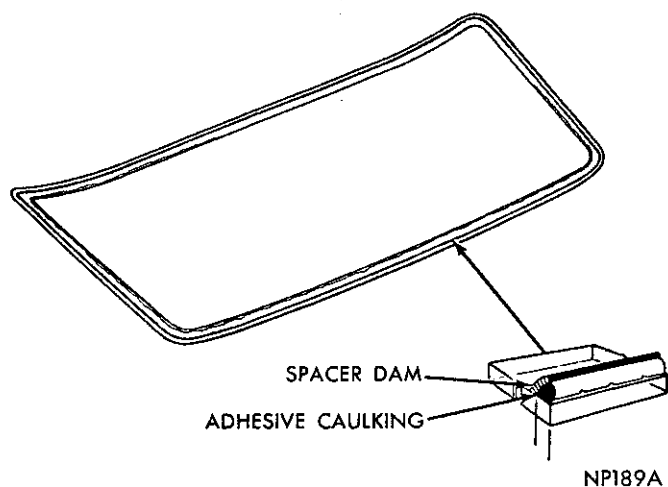

Fig. 10—Adhesive Application to Glass
(7) Apply a piece of masking tape over each side of glass and roof extensions. Slit tape vertically at edge of glass so when glass is installed, tape on glass can be aligned with tape on body.
(8) Remove glass from opening and place on a protected surface, with inside surface up.
(11) Insert adhesive tube into a standard household caulking gun, install nozzle on end of tube, and puncture adhesive seal at nozzle.
(12) Apply a smooth continuous 3/8 inch bead of adhesive on glass between glass edge and spacer dam (Fig. 10).
(13) When positioning glass in opening, alignment must be exact to prevent necessity of moving glass after adhesive contacts fence.
(14) With an assistant and using suction cups on glass, align tape on glass with tape on body, make